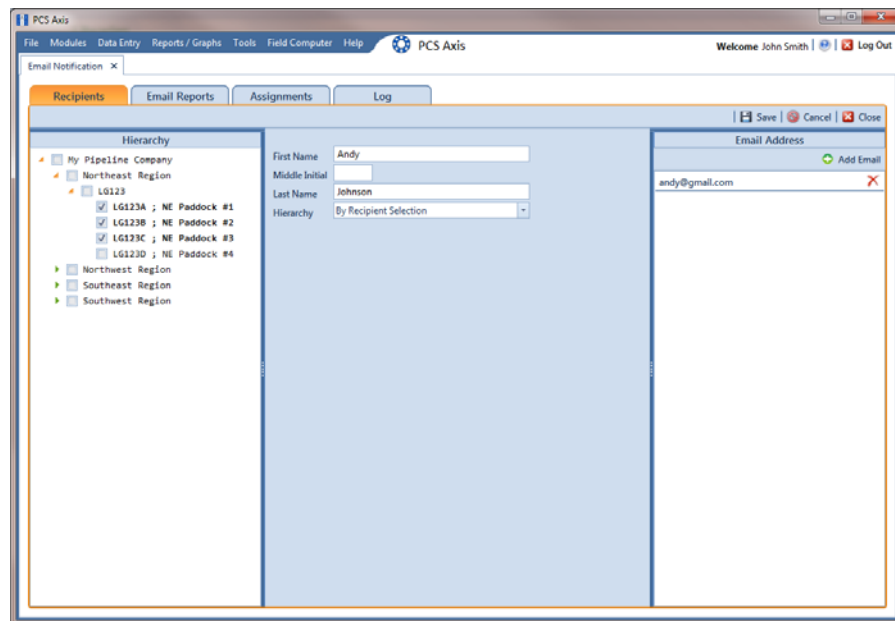

Figure 12-6. Recipients / External User
- 4 Click the toggle arrow  in the *Hierarchy* panel to view a list of pipeline segments in the hierarchy. Click the check box for each pipeline segment you want to assign to the user (Figure 12-6).
The *Email Address* panel displays all email addresses set up for a user selected in the center panel (Figure 12-6).